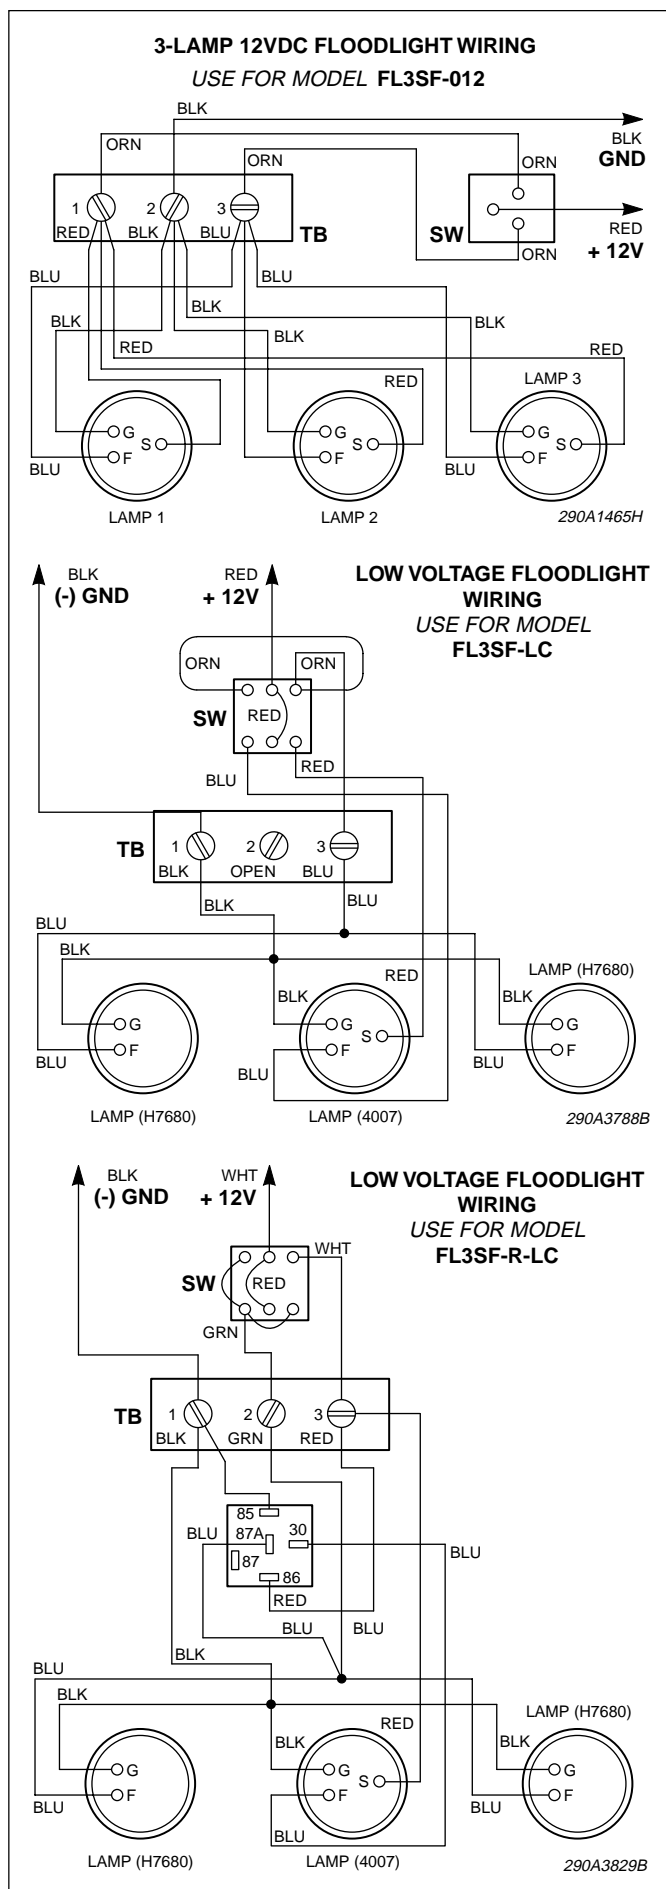

Figure 2.
3. See figure 2. Connect the power leads to the terminals on the replacement lamp. (See Table 1 for replacement lamps.)